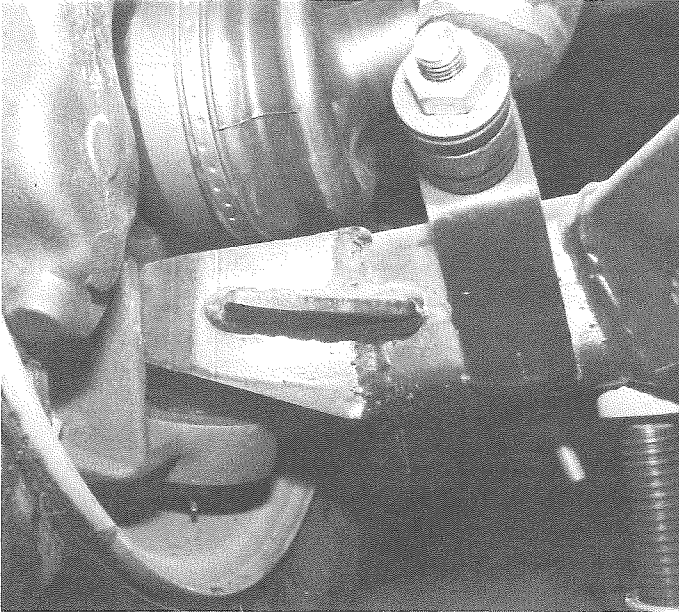

Figure 129 – Jack Location for Wheel Balancing
1. With a 5-ton minimum floor jack, raise the wheel/drive line of the tire to be tested as follows: Place the jack pad as far outboard as possible under the lower "A" arm (see figure 129). Raise "A" arm so that the tire clears the ground and the half-shaft is nearly parallel with the ground.\*